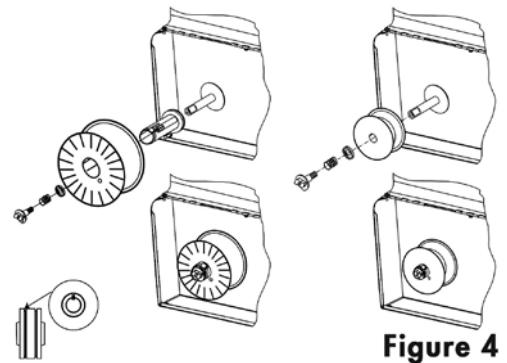

Figure 4
- Loosen the nut of the spool holder (brake drum) and remove the spring and the external ring. (Fig.4)
- Remove the plastic protection from the spool (4) and place the wire spool on the spool holder.